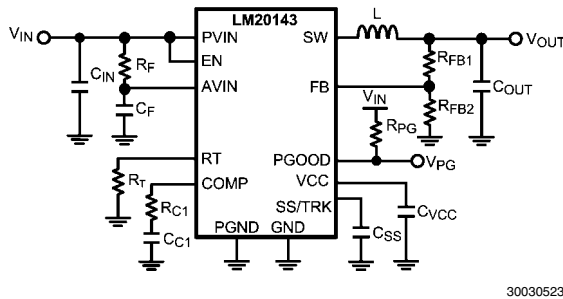

FIGURE 2. Typical Application Circuit
The LM20143 switching regulator features all of the functions necessary to implement an efficient low voltage buck regulator using a minimum number of external components. This easy to use regulator features two integrated switches and is capable of supplying up to 3A of continuous output current. The regulator utilizes peak current mode control with nonlinear slope compensation to optimize stability and transient response over the entire output voltage range. Peak current mode control also provides inherent line feed-forward, cycle-by-cycle current limiting and easy loop compensation. The switching frequency can be varied from 500 kHz to 1.5 MHz with an external resistor to ground. The device can operate at high switching frequency allowing use of a small inductor while still achieving efficiencies as high as 96%. The precision internal voltage reference allows the output to be set as low as 0.8V. Fault protection features include: current limiting, thermal shutdown, over voltage protection, and shutdown capability. The device is available in the eTSSOP-16 package featuring an exposed pad to aid thermal dissipation. The LM20143 can be used in numerous applications to efficiently step-down from a 5V or 3.3V bus. The typical application circuit for the LM20143 is shown in *Figure 2* in the design guide.
This section walks the designer through the steps necessary to select the external components to build a fully functional power supply. As with any DC-DC converter numerous trade-offs are possible to optimize the design for efficiency, size, or performance. These will be taken into account and highlighted throughout this discussion. To facilitate component selection discussions the circuit shown in *Figure 2* below may be used as a reference. Unless otherwise indicated all formulas assume units of amps (A) for current, farads (F) for capacitance, henries (H) for inductance and volts (V) for voltages.
To prevent high frequency noise spikes from disturbing the sensitive analog circuitry connected to the AVIN and AGND pins, a high frequency RC filter is required between PVIN and AVIN. These components are shown in Figure 2. as  $C_F$  and  $R_F$ . The required value for  $R_F$  is 1Ω.  $C_F$  must be used. Recommended value of  $C_F$  is 1.0 μF. The filter capacitor,  $C_F$  should be placed as close to the IC as possible with a direct connection from AVIN to AGND. A good quality X5R or X7R ceramic capacitor should be used for  $C_F$ .